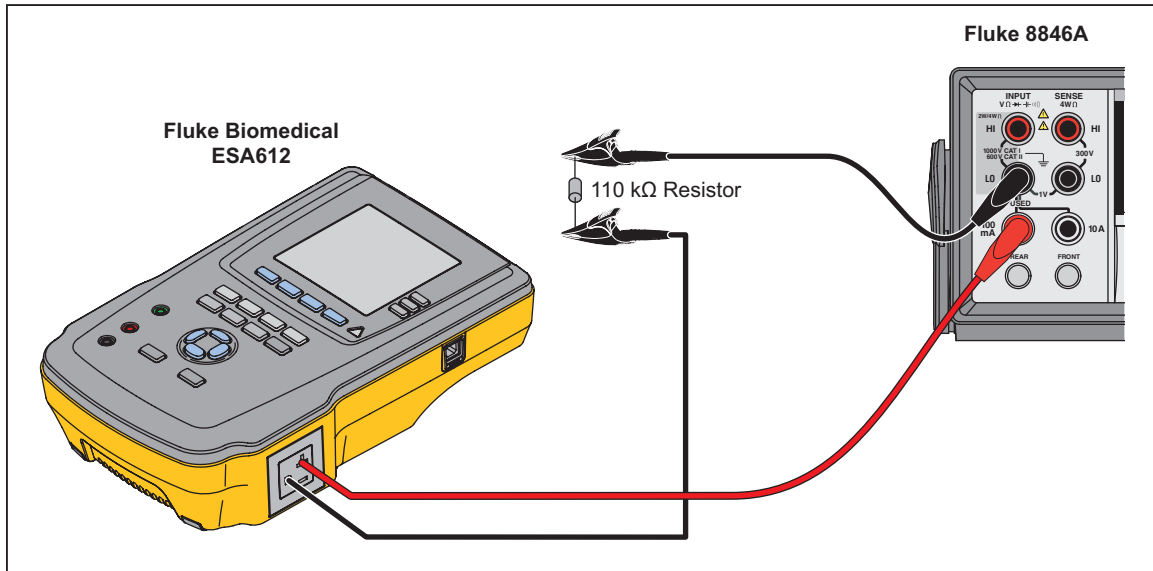

Figure 3-7. Insulation Resistance with 110 k Ω Resistor Connections
18. Connect the EO ground to one side of a 110 k Ω resistor. Connect the other side to the Input (-) of the DMM. Connect the 400 mA jack of the DMM to the EO Neutral. See Figure 3-7. Set the DMM to 10 mA ac mode.